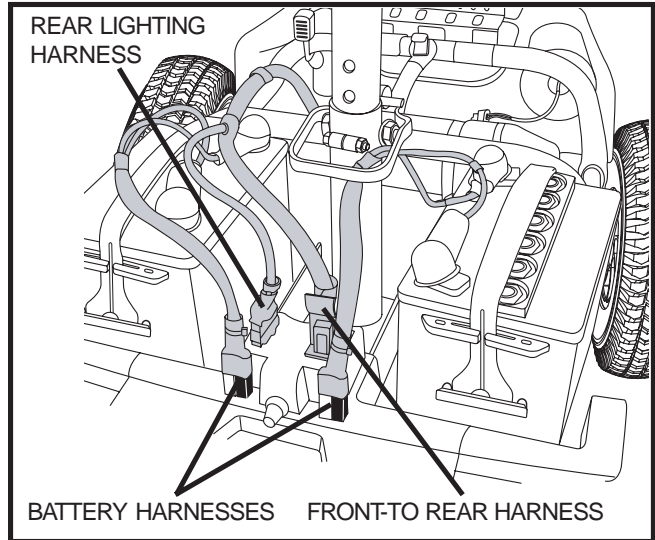

Figure 20. Harness Connections
5. Unplug the front-to-rear and rear lighting harnesses by squeezing the sides and pulling straight up. See figure 20.
6. Unplug both battery harnesses. Pull each harness straight up. See figure 20.
6. Connect the front-to-rear harness, rear lighting harness, and both battery harnesses. See figure 20.